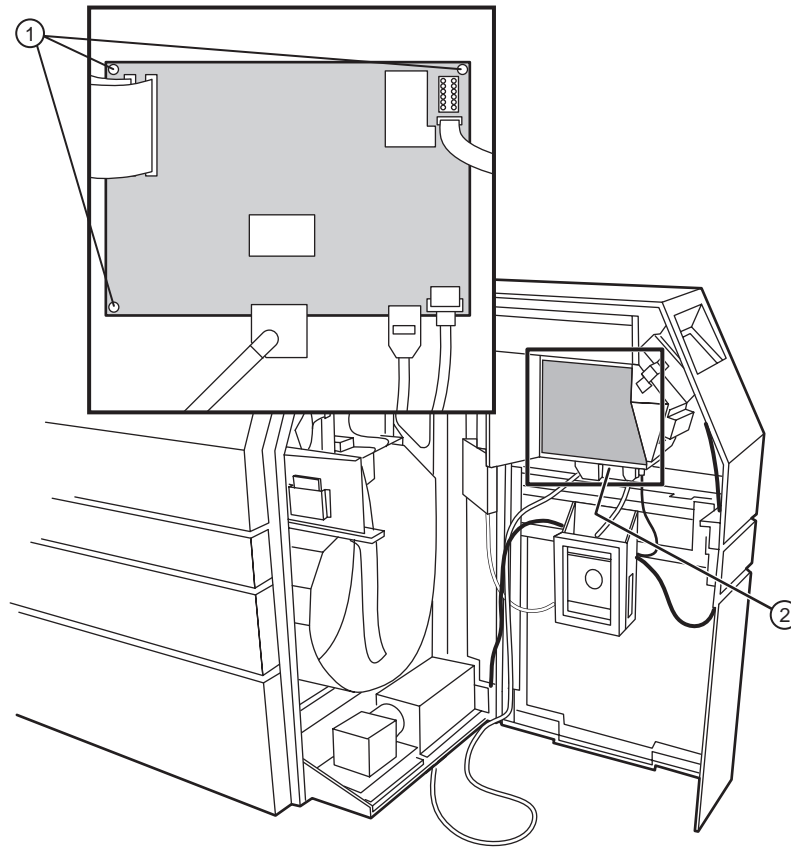

Figure 4-18 Digital Engine Controller PCB (DEC) screw locations.
①—SDMs (2). ②—CSDM cable (behind SDM cable). ③—Power supply. ④—OCP.
⑤—Vacuum. ⑥—Apis. ⑦—Bridge. ⑧—Modem. ⑨—Modem power
6. Remove the six (6) hex screws from the bottom of the electronics enclosure securing the DEC plate to the enclosure. Refer to Figure 4-18.
7. Remove the three (3) hex screws securing the DEC PCB in the enclosure and remove the board. Refer to Figure 4-18.